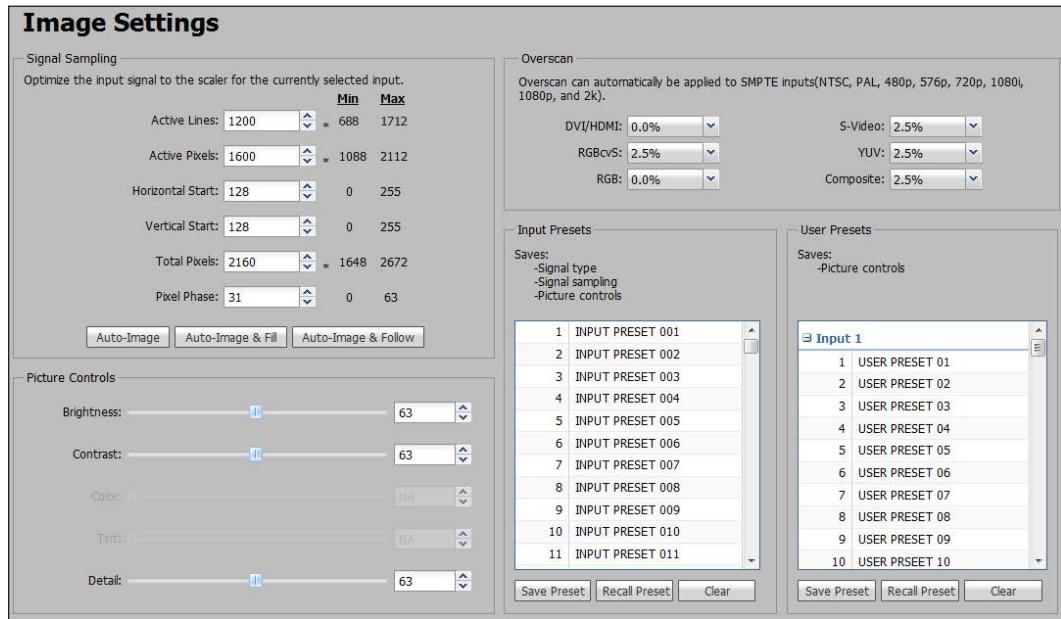
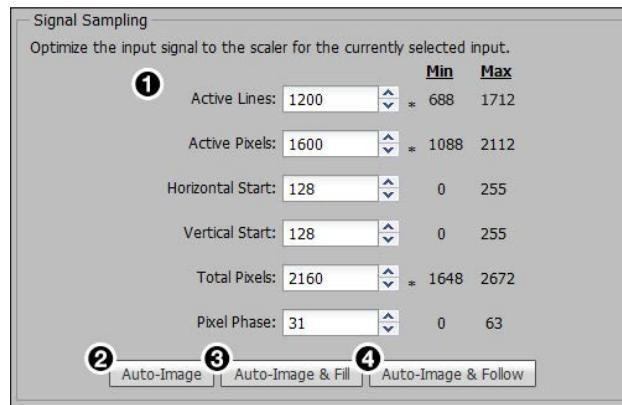

Figure 64. Image Settings Page
Figure 65. Signal Sampling Panel
To manually adjust signal sampling settings, enter a value within the **Min** and **Max** values displayed to the right of each adjustable setting (see figure 65, ①) or click the **Up** or **Down** arrows. An asterisk beside a chosen value for a signal sampling setting indicates that it is a default value for the applied video signal (for example, see Active Lines in figure 64).